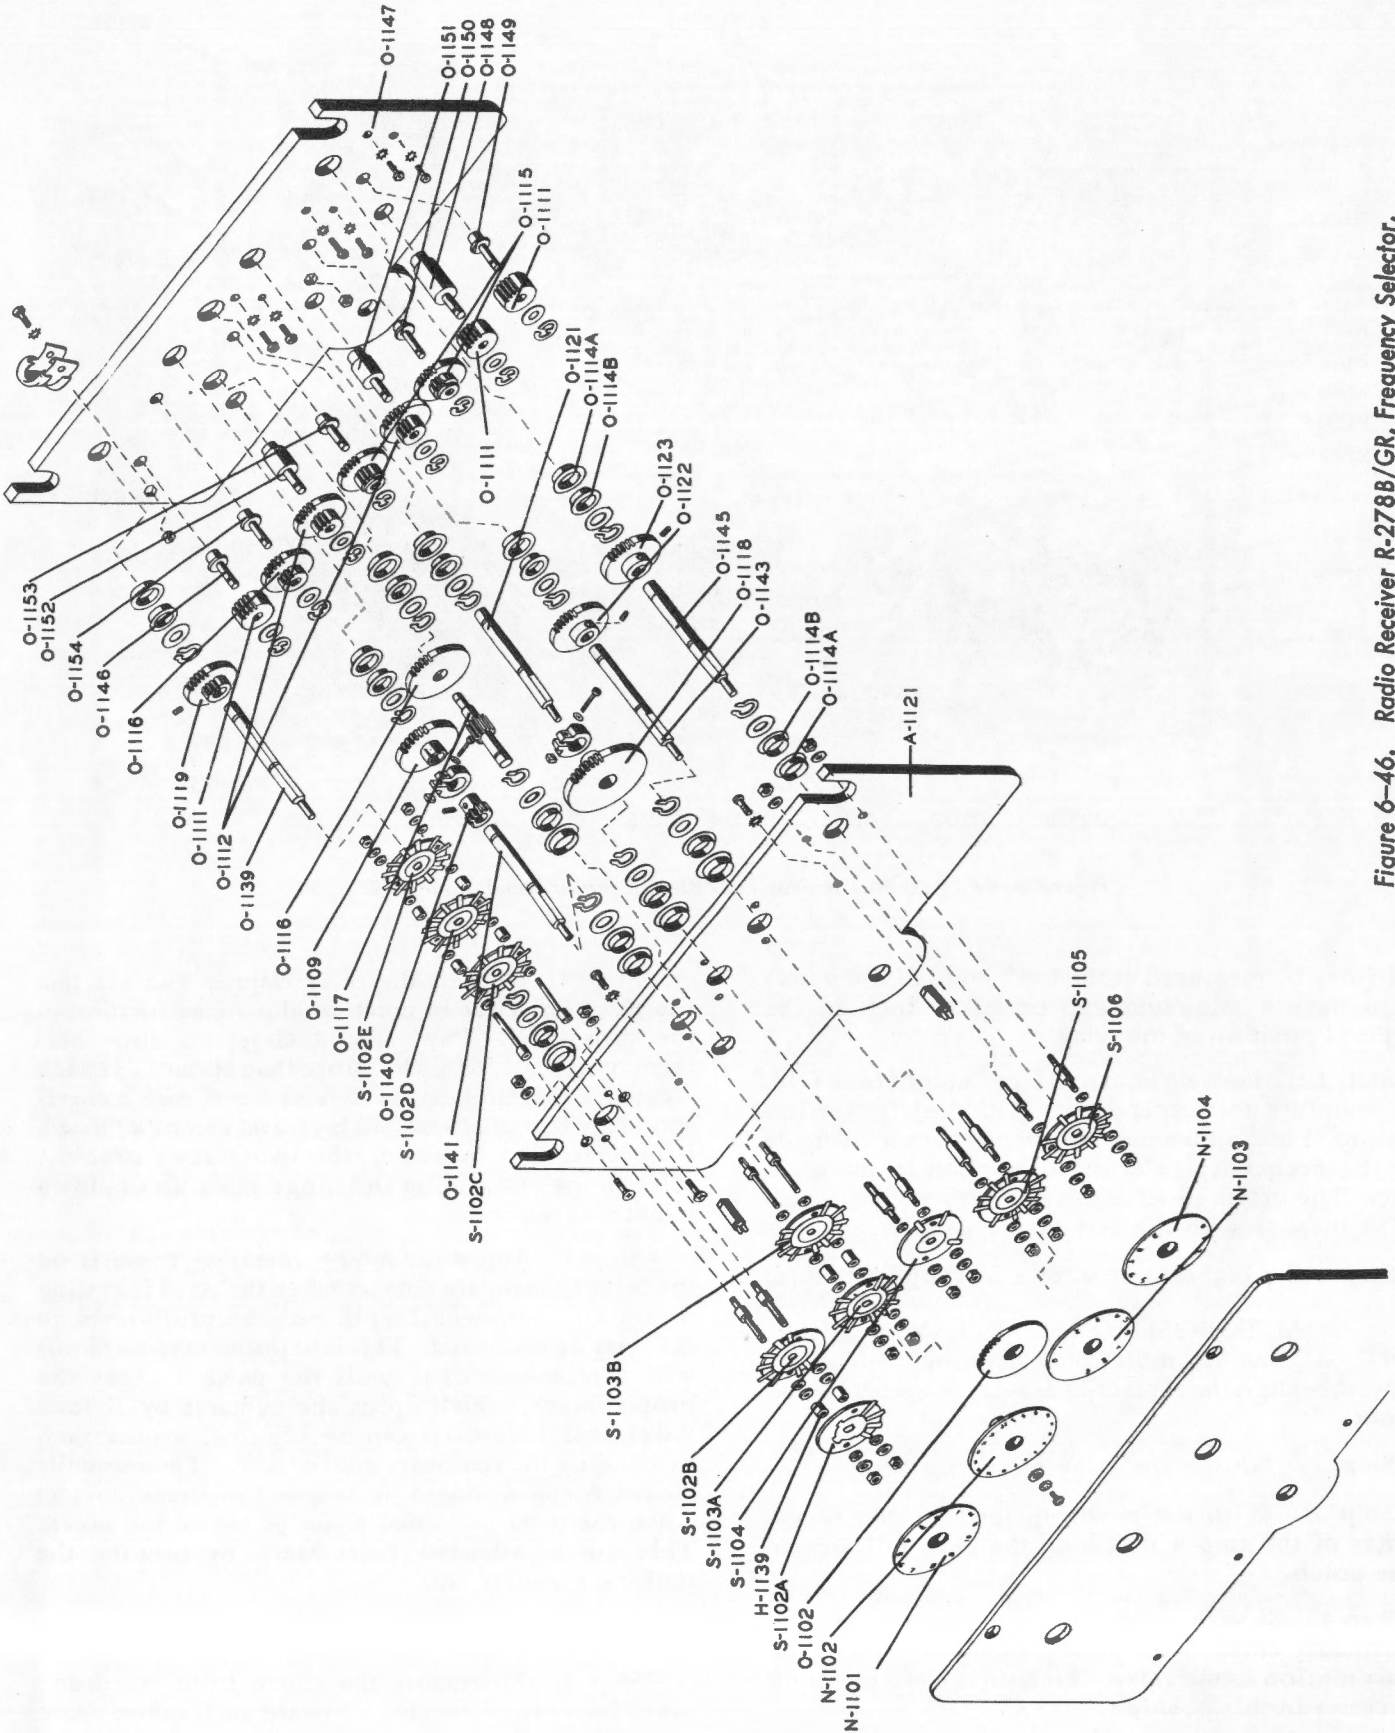

Figure 6-46. Radio Receiver R-278B/GR, Frequency Selector, Mechanical Section, Top View
Step 2. Remove dials N1101, N1102, N1103, and N1104 (figure 6-46).